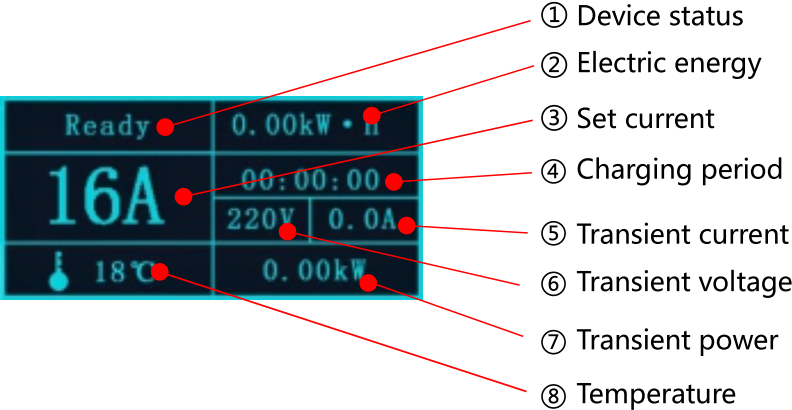
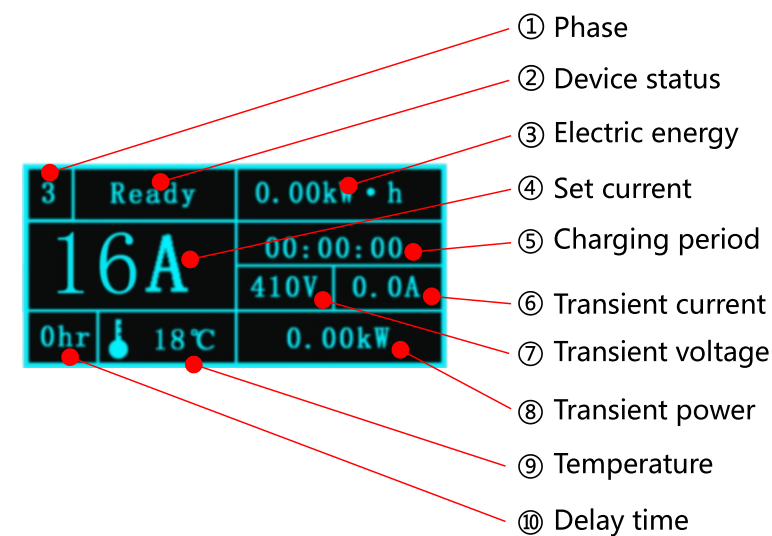

Figure 3 Display interface
Figure 4 Display interface
When the IC-CPD is used incorrectly, the corresponding parameters(i.e., ⑧ Temperature of figure 3, i.e., ① Phase, ⑦ Transient voltage, ⑨ Temperature of figure 4) in the interface of the OLED will blink (i.e., warning message).